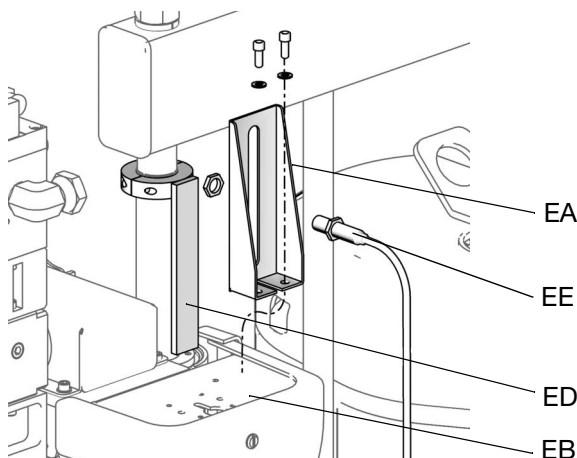

FIG. 9
3. To measure either drum low or drum empty, attach one sensor (EE) to the sensor bracket (EA).
4. Attach the actuator (ED):
- a. For D200, D200s, D200si and D200i supply systems: Attach the actuator (ED) to the ram piston rod, near the top, so it passes in front of the sensor (EE) at the correct level for drum low or drum empty. See FIG. 9.
- b. For D60 and D60i supply systems: Attach the actuator (ED) to the ram piston rod, near the top, so it passes in front of the sensor (EE) at the correct level for drum low or drum empty. Flip actuator bracket (ED) so that it points upwards instead of downwards to allow it to pass the sensor (EE). See FIG. 9.